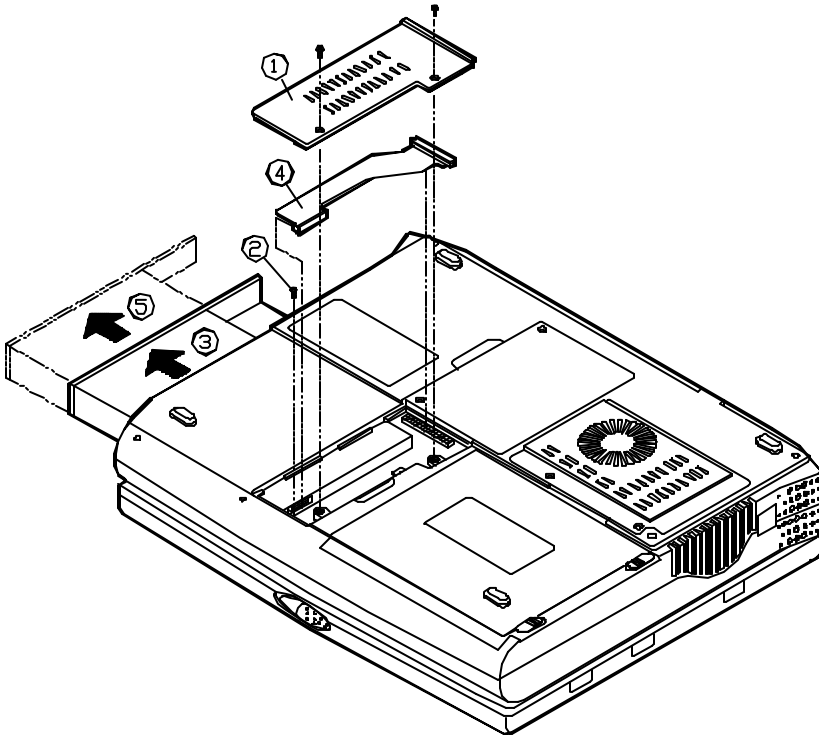

Figure 2-12
3. Remove the CD-ROM cover (Step 1 in Figure 2-12).
4. Remove the securing screw to release the CD-ROM module. (Step 2 in Figure 2-12).
5. Slide the CD-ROM module slightly out to disconnect the cable (Step 3 and Step 4 in Figure 2-12).
6. Pull gently and firmly the CD-ROM module away from the compartment (Step 5 in Figure 2-12).